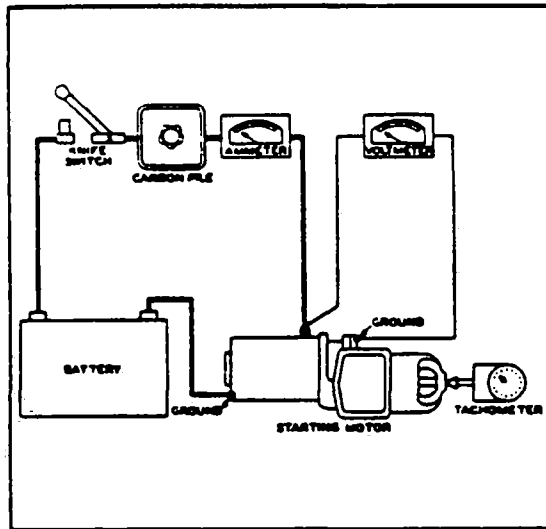

Figure 11-46. No-Load Test Hookup
a. After the starting motor is reassembled, it should be tested to see that the no-load current at a certain voltage is within specifications as given in paragraph 11-103. To make this test, connect as shown in Figure 11-46. If current is too high, check the bearing alignment and end play to make sure there is no binding or interference. Two or three sharp raps on the frame with a rawhide hammer will often help to align the bearings and free the armature.